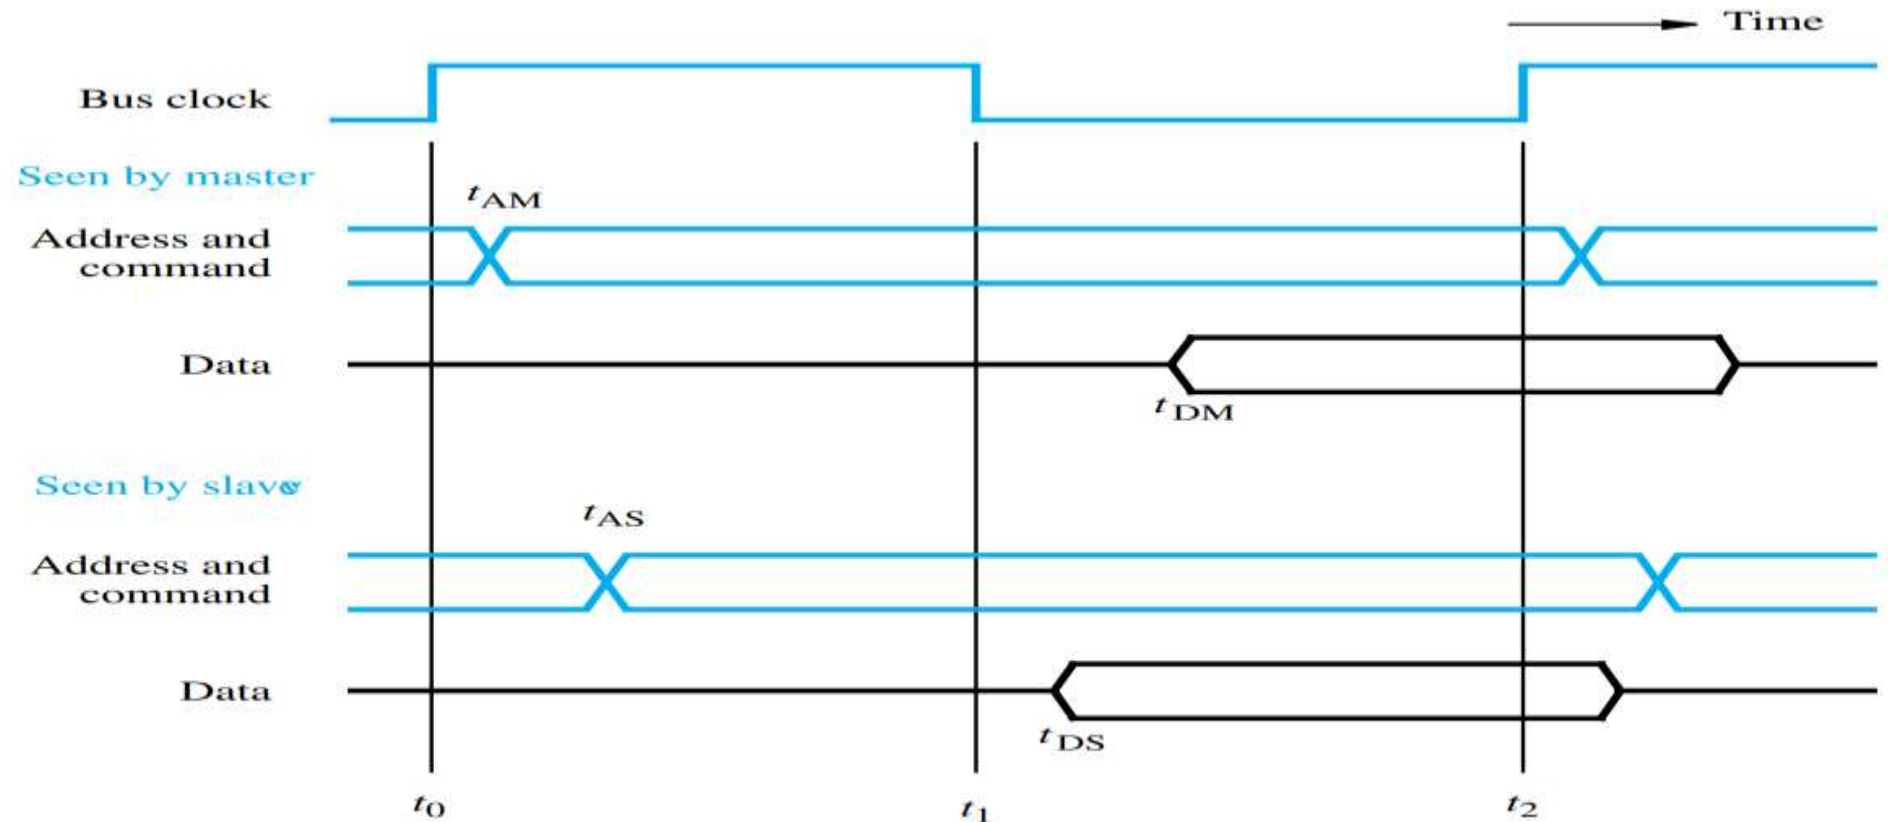

Figure 7.4 A detailed timing diagram for the input transfer of Figure 7.3.
- Figure 7.4 gives a more realistic picture of what actually happens. It shows two views of each signal, except the clock. Because signals take time to travel from one device to another, a given signal transition is seen by different devices at different times.